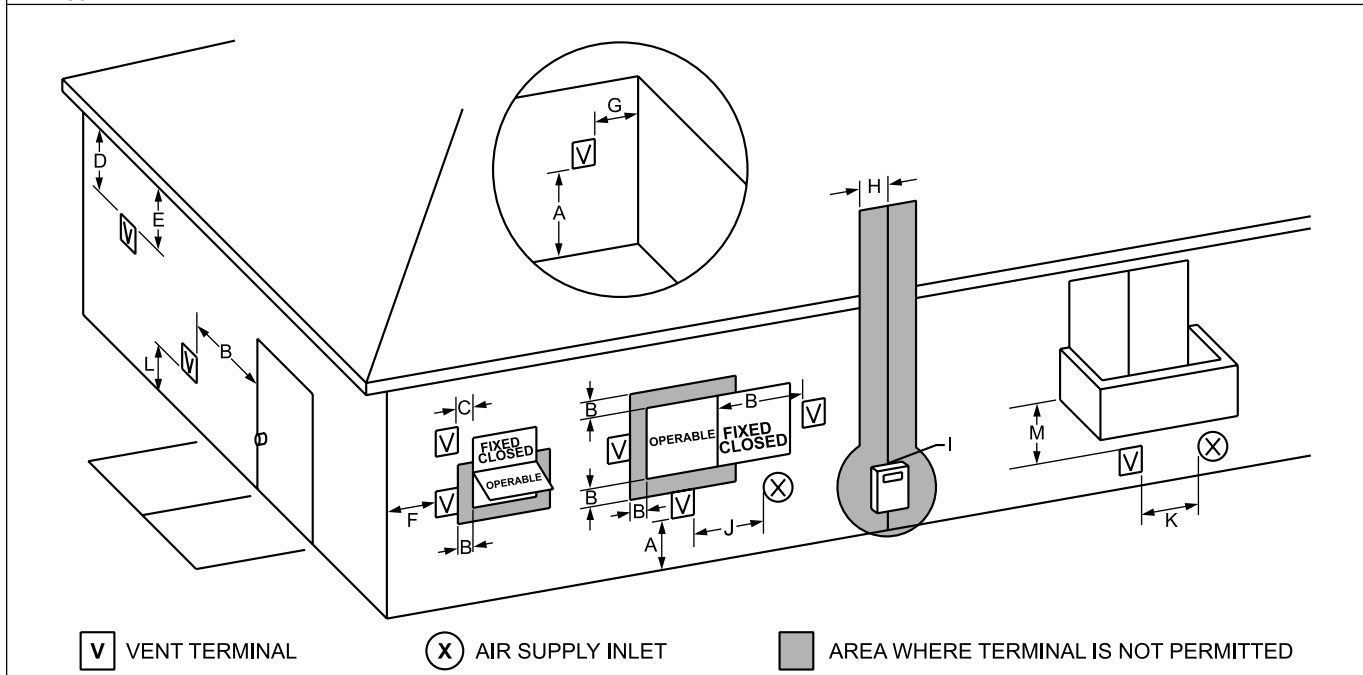

Figure 3. Combustion Air and Vent Through Side Wall.
1. Figure 3 shows the requirements for mechanical vent terminal clearances for the U.S. and Canada.
4. If the Pennant is side-wall vented to the same wall, locate the vent terminal at least 3 feet (0.9m) horizontally from the combustion air terminal, and locate the vent terminal at least 1 foot (0.3m) above the combustion air terminal (see Figure 3).